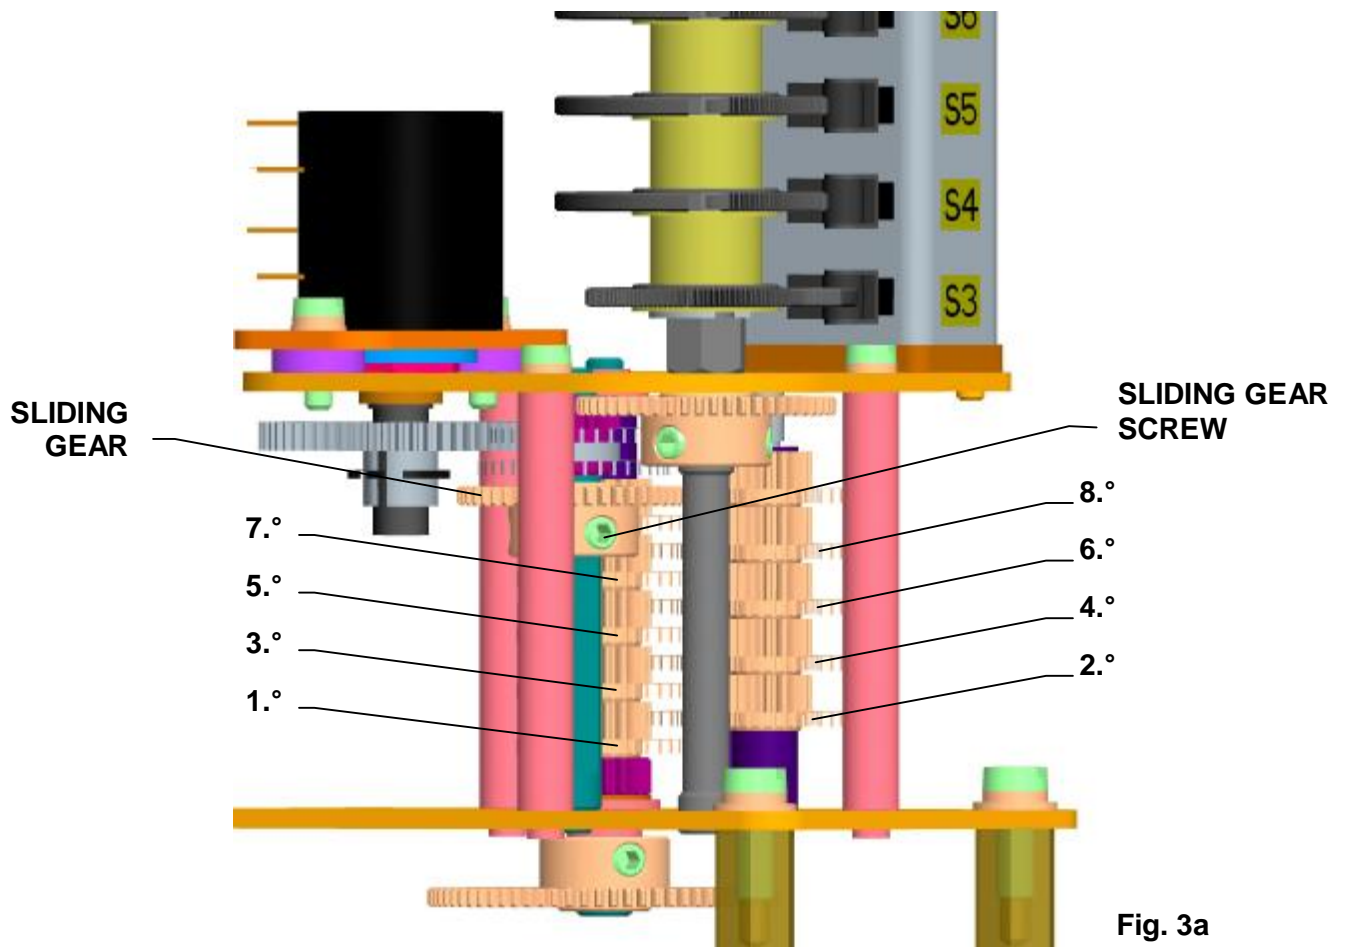

Fig. 3a
- shift the sliding gear to the required speed as per Table 2, Fig. 3a by loosening the screw of the sliding gear and tighten it once resetting is over. When setting the sliding gear be particular about correct meshing with the given speed gear;
- loosen the nut (22) with simultaneous holding the central milled nut (23) and then loosen the nut (23) fixing the cams still having the Belleville springs which create axial thrust;
- reset the EA to the “Open” position and rotate the cam (29) clockwise (when viewing the actuating plate from above) until switch S3 switches over (25);
- reset the EA by the stroke where the “Open” position is to be indicated and turn the cam (31) clock-wise until switch S3 switches over (27);
- reset the EA to the “Closed” position and turn the cam (28) counter clockwise until switch S4 switches over (24);
- reset the EA back by the stroke where the “Closed” position is to be indicated and turn the cam (30) counter clockwise until switch S6 switches over (26);
- once the EA is adjusted manually tighten the central milled nut (23) to lock the cams and tighten the lock nut (22) while simultaneous holding the milled nut;
- swing the position indicator discs (31) for the given number of revolutions against the gauge mark on the top cover sight;